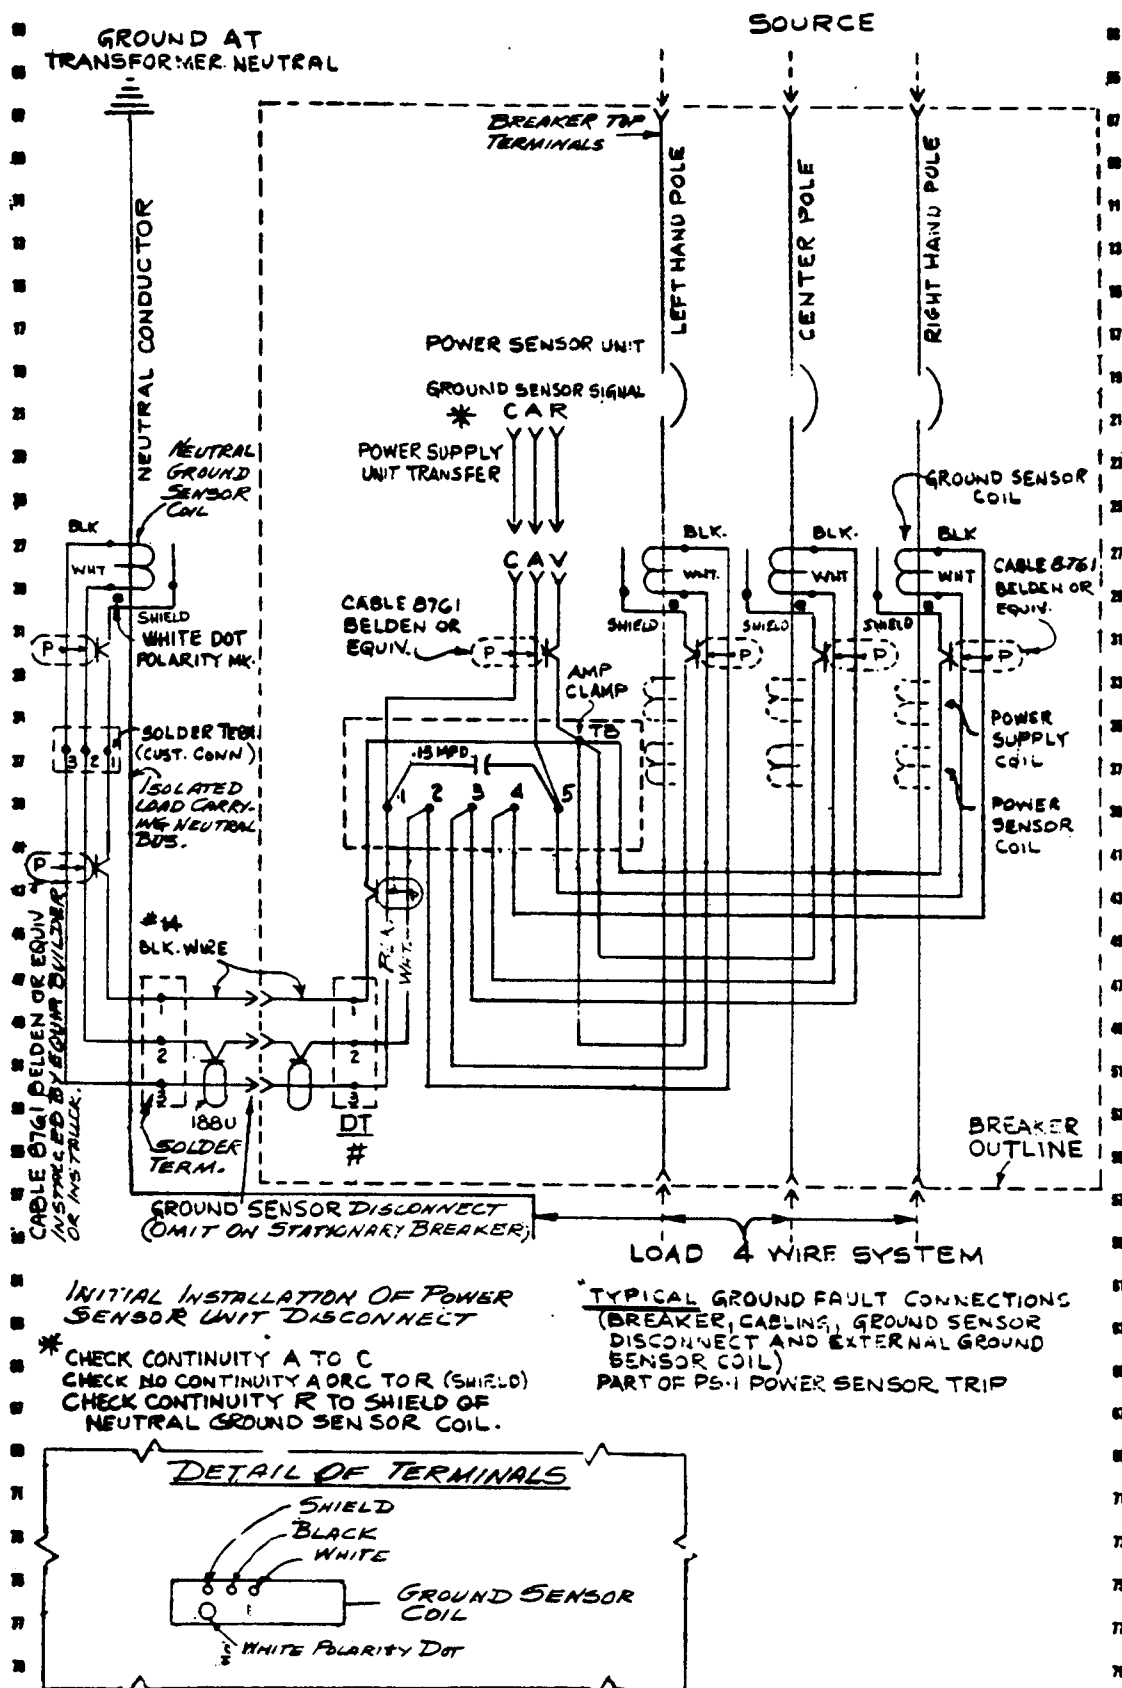

Figure 8. (138B2454-6) Ground Fault System Wiring Diagram
3. Ground Fault System wiring drawing #138B2454 (Figure 8) page 13.